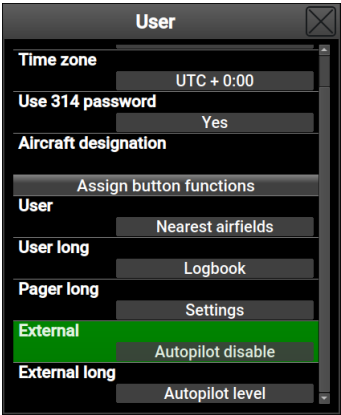

Figure 32: External push button configuration. The example shows autopilot settings, but any other functions can be used instead.
3. Scroll down the window and search for the **External** and **External long** items. Assigne them functions of your choice. A typical example is shown on Figure 32. **External** represents the short press event on the external button and the **External long** represents the long press event.